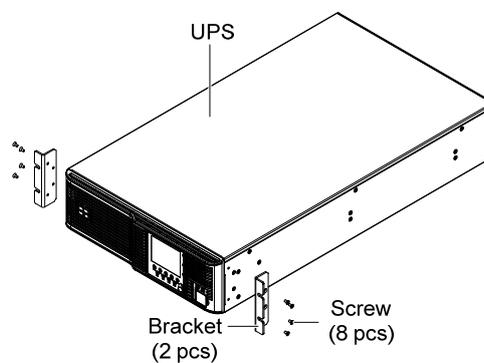

Figure 2-6 Installing brackets
1. Use eight M4 × 10 screws to fix two brackets (accessories) respectively on both sides of the UPS front panel, as shown in Figure 2-6.